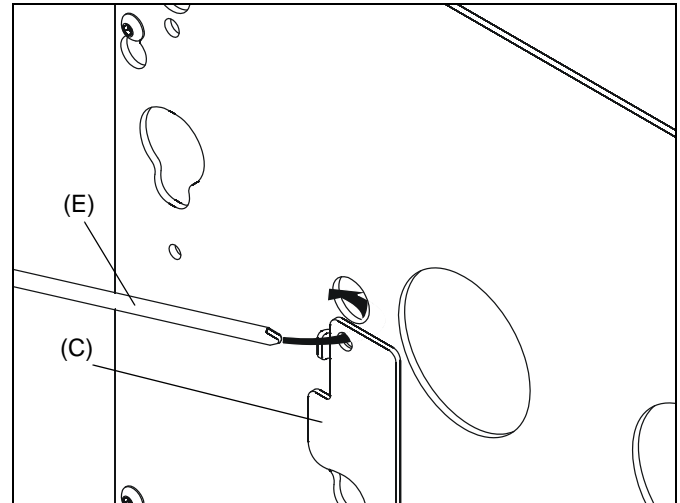

Figure 7
7. Loop cable tie (E) through locking flag (C) hole and back through face plate hole. (See Figure 7)